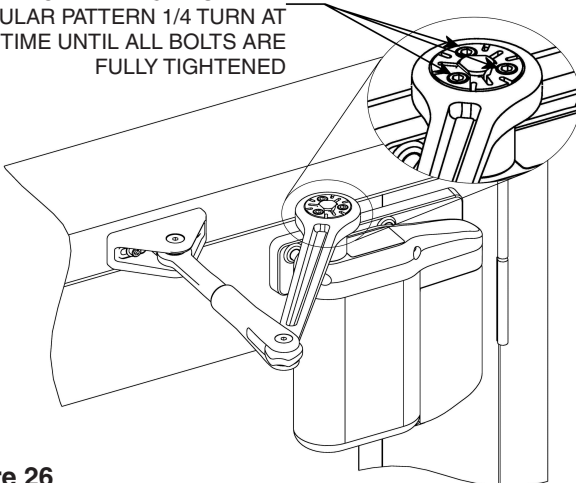

Figure 26
- Refer to Figure 26, and , while maintaining the door arm position, TIGHTEN the door arm coupling screws evenly (one quarter turn at a time) until fully tight.